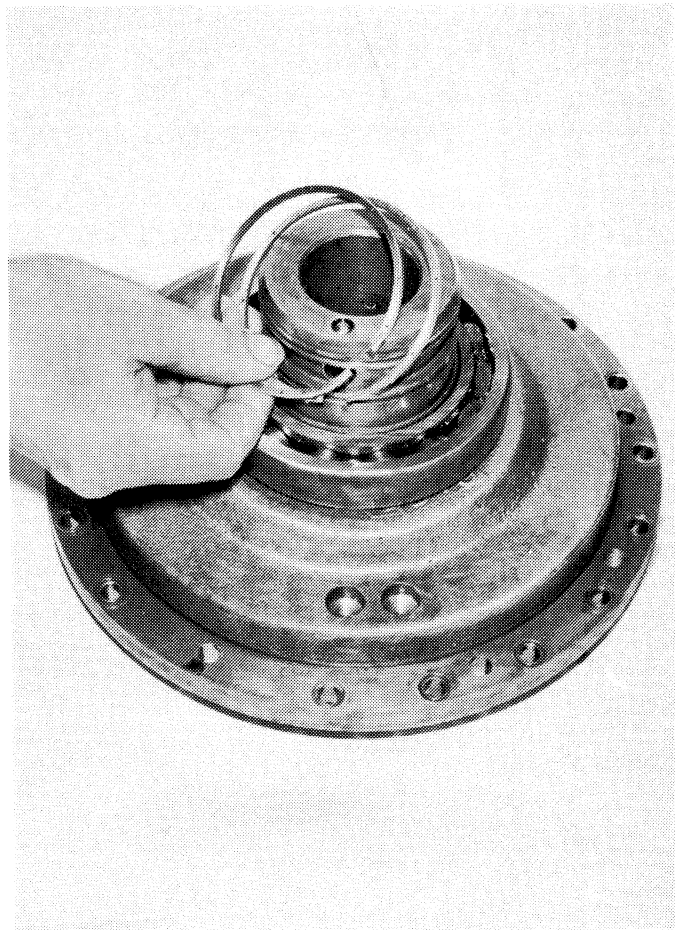

**Figure 6-15. Removing or Installing Manifold.**
10. Remove the hex-head screws from the manifold. See Figure 6-15.